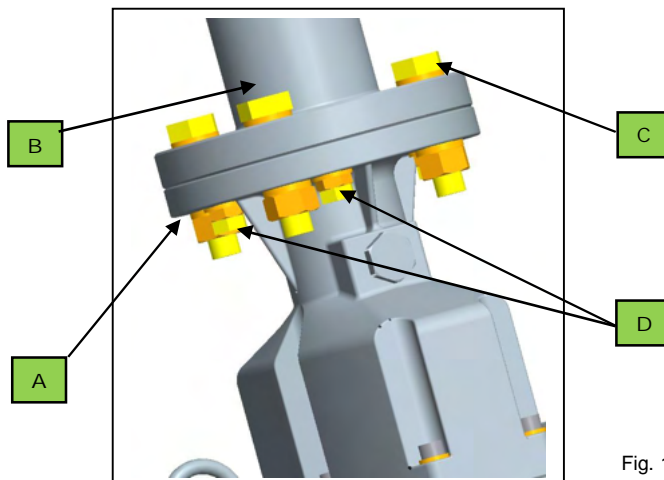

Fig. 15
**First step:** Remove the tape from the entry/exit air zones. Fix the upper flange (Fig.15/A) on the flange of the pipe from the conservator (Fig.15/B) with four M12 screws (Fig.15/C).
**Second step:** Check the upper level (Fig.2/E), the internal bubble must be inside the smallest black ring. Readjust the four special screws (Fig.15/D) to find the right position following the scheme: